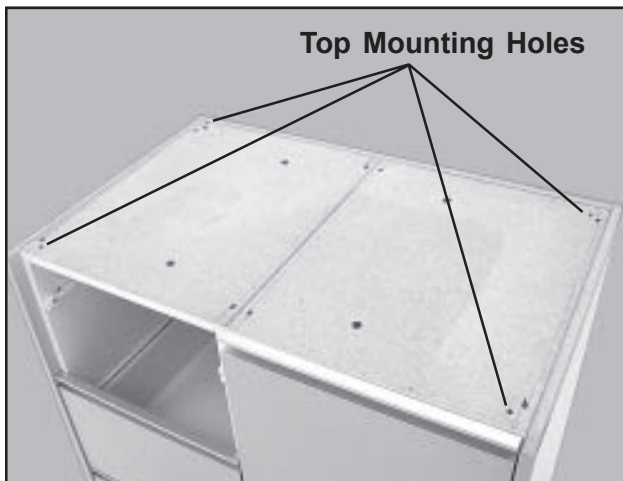

Figure 27. Laminated Top Mounting Holes
4. Place the new exam top on the table. As best you can, align the four mounting holes on the underside of the table top with the four holes in the upper surface of the table (Figure 27).